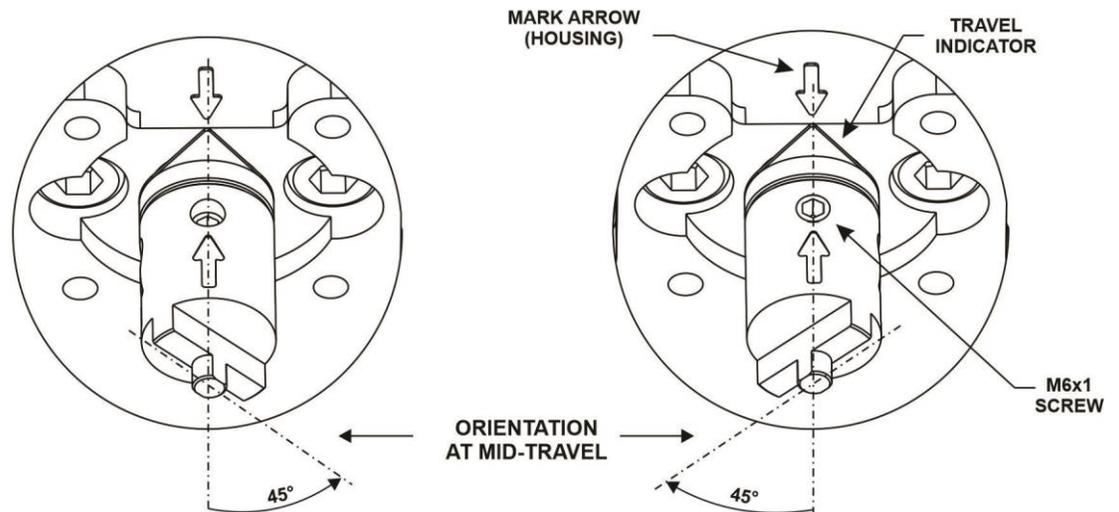

Figure 1.5 – Rotary adaptor assembly orientation on actuator
6. Fit the rotary adaptor onto the feedback shaft of the FY500 and adjust its position on the actuator shaft so that the arrow on the actuator lines up with the arrow mark on the back of the FY500 housing. See figure 1.5.
7. Attach the rotary adaptor to the feedback shaft with one M6 x 10 screw, as shown in figure 1.5. Tighten until the screw fully enters the part.